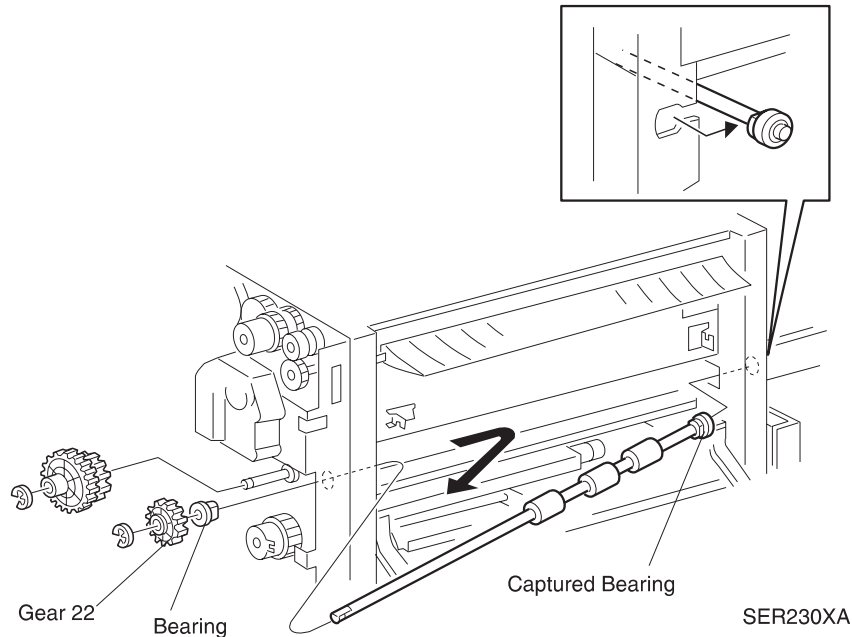

Figure 3-32. Take Away Roll Shaft
1. Slide the captured bearing end of the Take Away Roll shaft into the bearing hole at the front of the HCF frame (Figure 3-32).